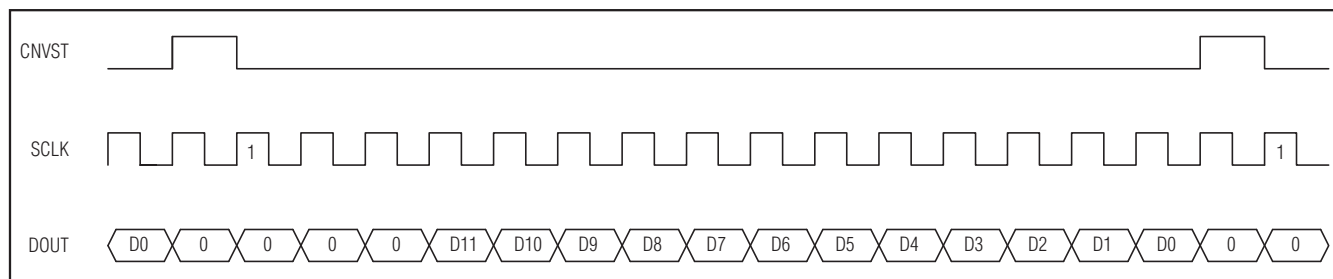
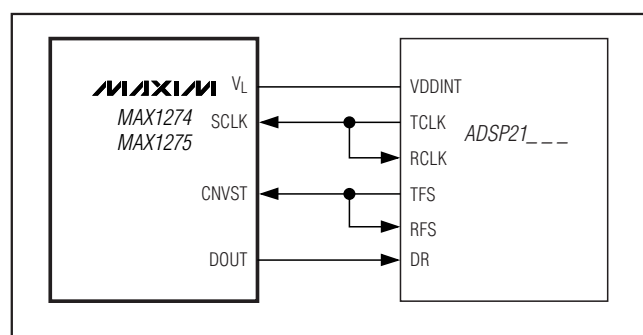

Figure 17. DSP Interface—Continuous Conversion
Figure 19. Interfacing to the ADSP21_ _ _
The MAX1274/MAX1275 can also be connected to the TMS320C54_ by using the data transmit (DX) pin to drive CNVST and the CLKX generated internally to drive SCLK. A pullup resistor is required on the CNVST signal to keep it high when DX goes high impedance and 0001hex should be written to the DXR continuously for continuous conversions. The power-down modes may be entered by writing 00FFhex to the DXR (see Figures 17 and 18).
The MAX1274/MAX1275 can be directly connected to the ADSP21_ _ _ family of DSPs from Analog Devices, Inc. Figure 19 shows the direct connection of the MAX1274/MAX1275 to the ADSP21_ _ _. There are two modes of operation that can be programmed to interface with the MAX1274/MAX1275. For continuous conversions, idle CNVST low and pulse it high for one clock cycle during the LSB of the previous transmitted word. The ADSP21_ _ _ STCTL and SRCTL registers should be configured for early framing (LAFR = 0) and for an active-high frame (LTFS = 0, LRFS = 0) signal. In this mode, the data-independent frame-sync bit (DITFS = 1) can be selected to eliminate the need for writing to the transmit-data register more than once. For single conversions, idle CNVST high and pulse it low for the entire conversion. The ADSP21_ _ _ STCTL and SRCTL registers should be configured for late framing (LAFR = 1) and for an active-low frame (LTFS = 1, LRFS = 1) signal. This is also the best way to enter the power-down modes by setting the word length to 8 bits (SLEN = 1001). Connect the VL pin to the ADSP21_ _ _ supply voltage when the MAX1274/MAX1275 are operating with a supply voltage higher than the DSP supply voltage (see Figures 17 and 18).